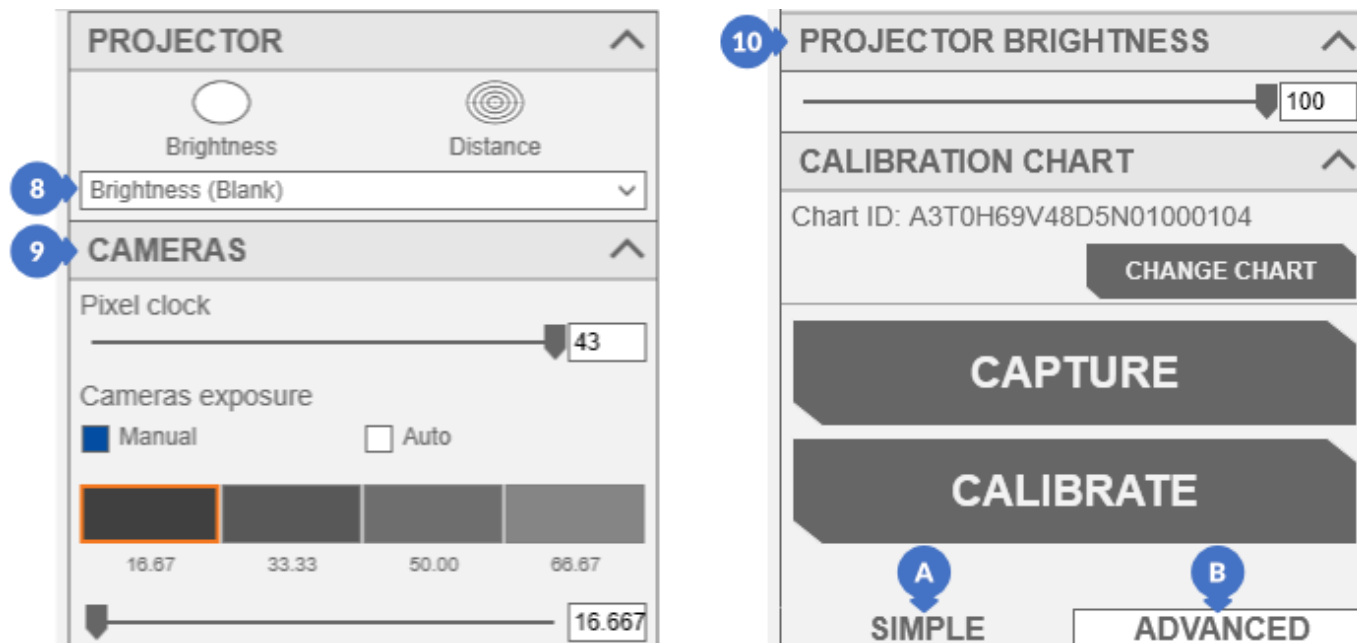

Figure 137. Calibration panel – advanced settings
The **ADVANCED** (B) tab compared to the **SIMPLE** (A) tab contains a list of all projector patterns (8) in the **PROJECTOR** category (Figure 137).